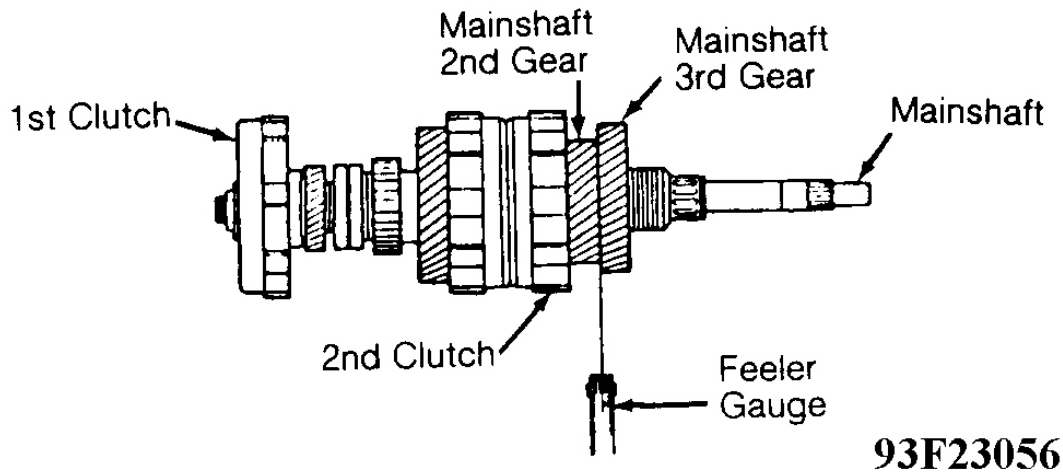

Fig. 19: Checking Mainshaft 2nd Gear-To-3rd Gear Clearance
4. Using feeler gauge, measure clearance between mainshaft 2nd gear and mainshaft 3rd gear. See **Fig. 19** . Replace thrust washer, located between mainshaft 2nd gear and 2nd clutch, if clearance is not .003-.006" (.07-.15 mm). Different thickness thrust washers are available. See **MAINSHAFT THRUST WASHER SPECIFICATIONS** table. Replace thrust washer and recheck 2nd gear-to-3rd gear clearance.